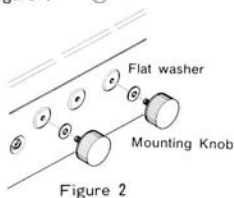

Figure 2
- (2) Screw the mounting knobs loosely to the receiver using the supplied flat washers as shown in Figure 2.